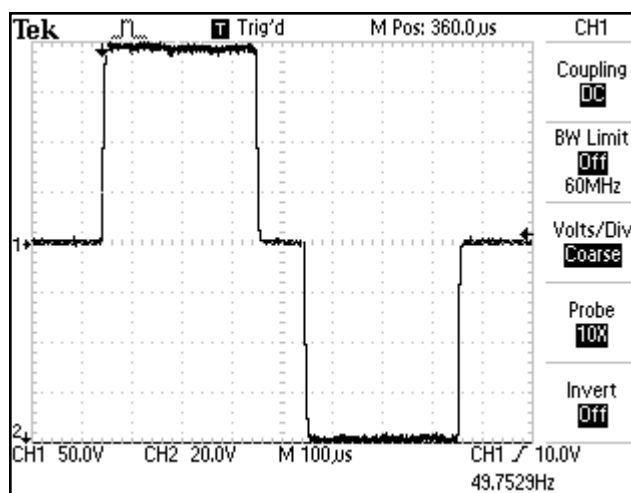

FIGURE 5.5
10. Compare waveform on scope to Figure 5.5.
1. Waveform is the same between scope and Figure 5.5.